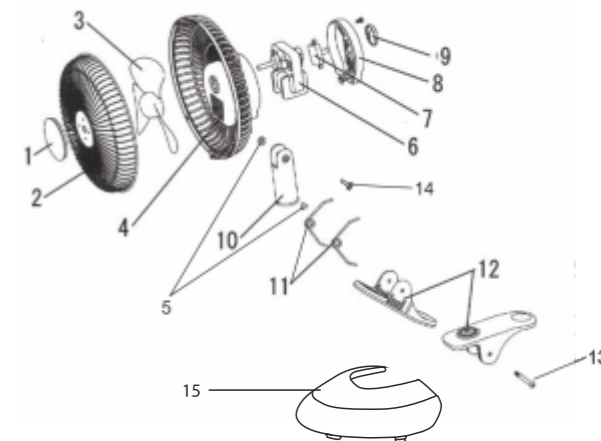

Fig. 1
6. ASSEMBLY (see Fig. 1, page 7)
1. Please, set the blade (3) on the motor (6) shaft
2. Please, interconnect front grill (2) and back grill (3); next step is fixing to grills together
3. Please, fix base (10) with clip (12) to the fan with screw «A»
4. In case of questions, please, check Fig. 1 once again. This model of fan can be assembled easy
First of all, you must disconnect fan from power grid. After that you can discover fan, opening front grill (2) to reach blade of fan (3) (please, use Fig. 1 to understand design of device clear). You should use soft cloth for cleaning. Please, be assured, that all plastic parts of fan are dry before fan assemblage! In case of need you can also remove dust from the grill, using delicate brush.